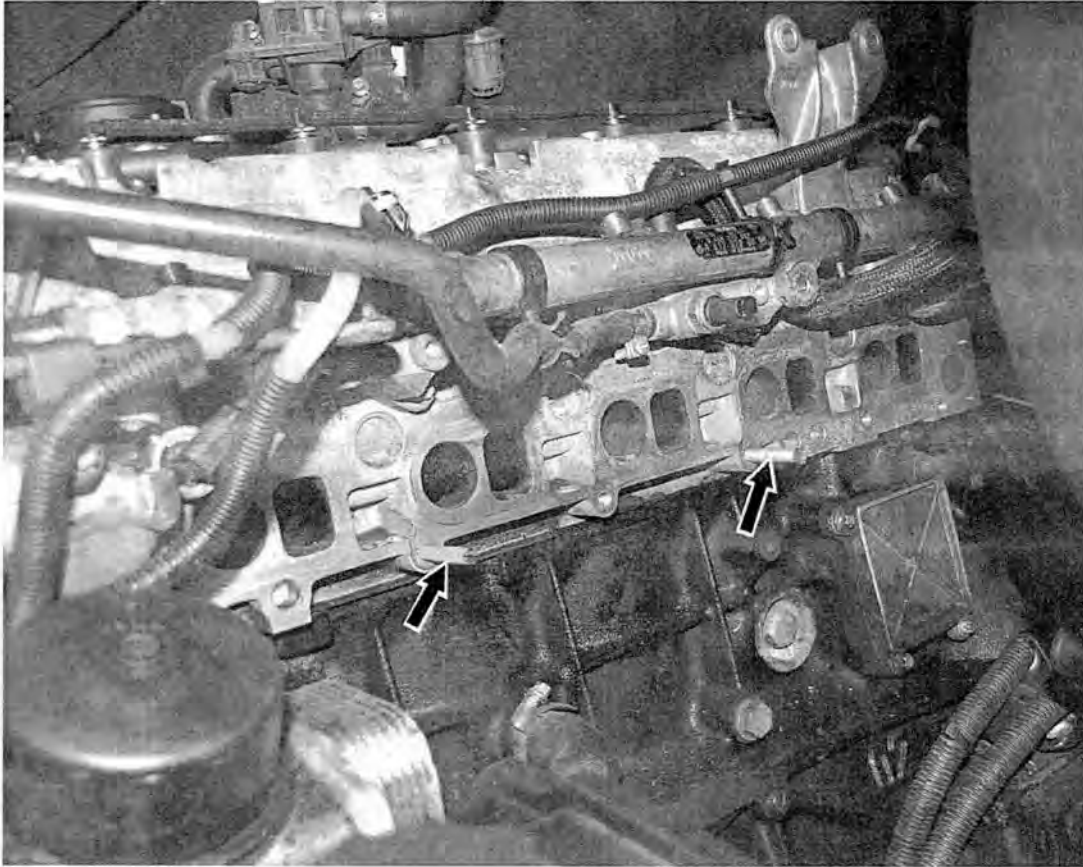
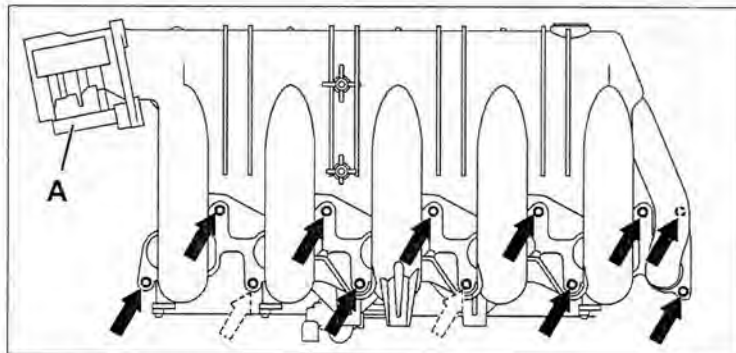

Figure 23
Figure 26
- **Temporarily** install 2 (M7 x 43) threaded studs (shop supply) (arrows, Figure 23) into intake manifold bolt holes to hold intake manifold gasket in place during reassembly.
- Install intake manifold gasket to studs (arrows, Figure 23).
- **Remove** mounting studs (arrows, Figure 23) after installing ("starting") intake manifold bolts (arrows, Figure 26).
- Torque all intake manifold mounting bolts (arrows, Figure 26) to 16 Nm.
- Due to the location of the manifold bolts (arrows, Figure 26) use a 1/4" drive torque wrench to torque bolts. Bolts at rear of manifold will require the use of 1/4" drive universal joint extension with 1/4" drive (straight) extensions to properly torque.
- Install previously removed mixing chamber (A) to new intake manifold refer to WIS: AR09.20-D-1320B.